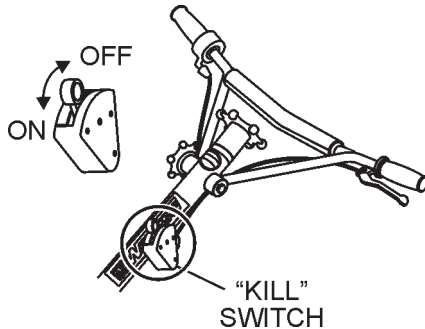

Figure 24. Centrifugal Kill Switch
- Place the **centrifugal kill switch** (Figure 24) in the "ON" position. For models that use this feature.